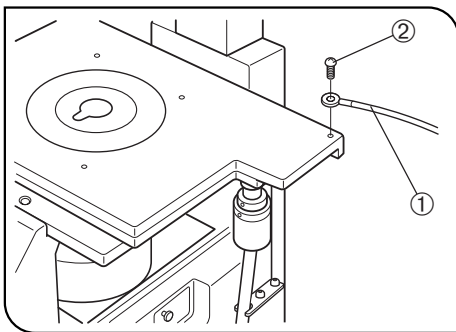

Fig. 12
3 Connecting the Grounding Wire (Fig. 12)
Prepare a grounding wire ① and one M4 screw ② and attach the grounding wire as shown in Fig. 12.